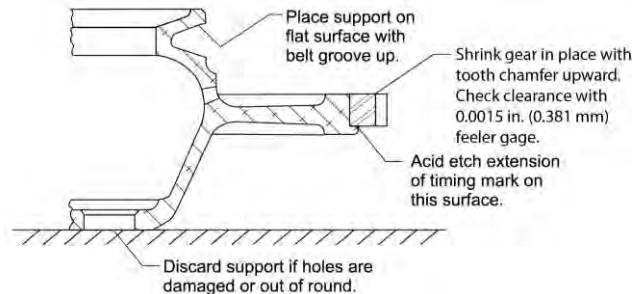

Figure 6
- F. Put the starter ring gear support on a flat surface with the alternator/generator belt groove upward as shown in Figure 6.